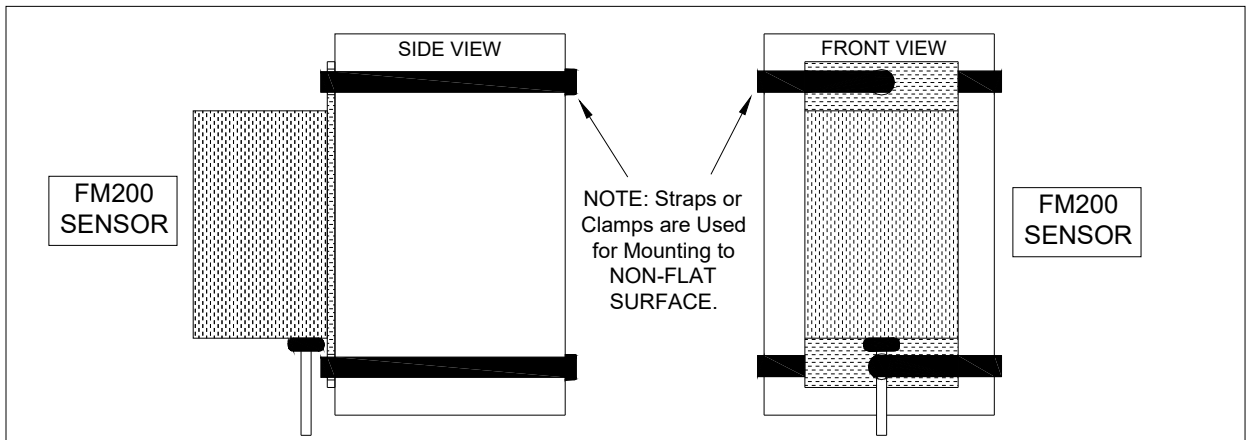

Figure 6
- Refer to mounting tabs located on each end of bottom of sensor housing (Fig. 6)